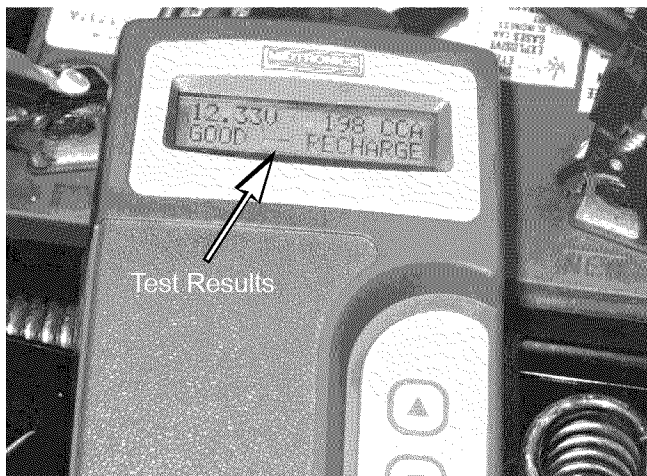

Figure 7.43
- 3d. Read the display of the tester. The tester's display will indicate if the battery passed or not. See Figure 7.43.